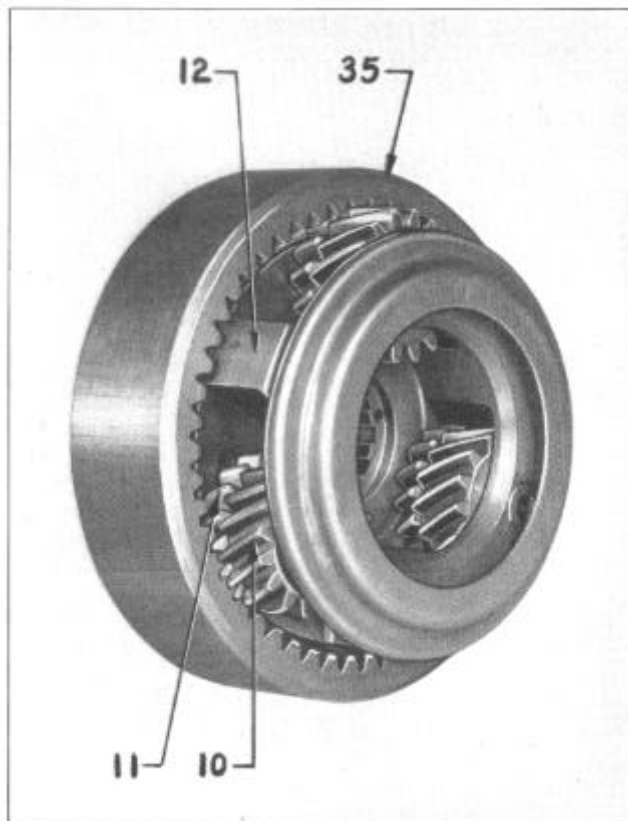

Figure 7
- Place pinion cage assembly (12), Figure 7, on transmission main shaft and mesh wide pinions (10) with stationary gear (36), Figure 1.
- Place clutch pawl (42), Figure 5, and core assembly over narrow pinions (11), Figure 7, and wind assembly clockwise so that teeth of narrow pinions pass 1 teeth of wide pinions or until marked teeth on each pinion line up. Then push clutch pawl and core assembly onto pinions.